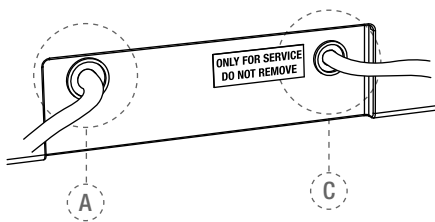

Fig. 2 Back of central unit
- Insert the connector of the battery charger in jack connector (A – see Fig. 2) at the back of the device (for details see chapter 7.3.3.).
- Plug the foot pedal cable into the jack, located on the back of the device (C – see Fig. 2).
**Flashing orange:** Battery charger is correctly connected to socket (A – see Fig. 2) at the back of the device and battery is charging.